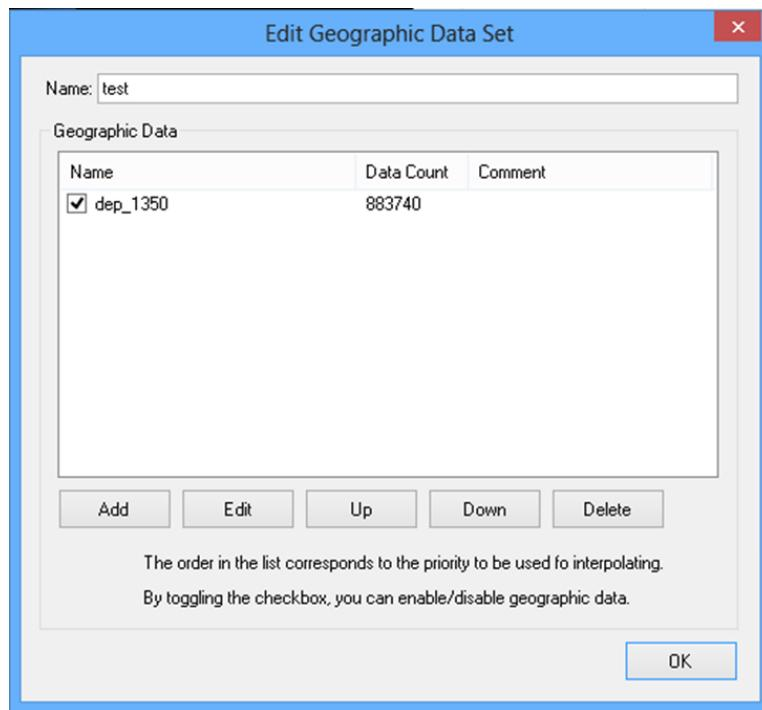

Figure 21 — Example dialog for editing topography data sets (figure shown previously)
The dialog shown in Figure 21 will open. Adjust the settings as necessary and click the OK button.
To add topography data, click the Add (A) button on the dialog shown in Figure 21. The dialog shown in Figure 19 will open. On this dialog, set conditions and click the OK button.
To edit topography data, select the topography data you want to edit from the list on the dialog shown in Figure 21 and click the Edit (E) button. The dialog shown in Figure 19 will open. On this dialog, set conditions and click the OK button.
To delete topography data, select the topography data you want to delete from the list on the dialog shown in Figure 21 and click the Delete button.